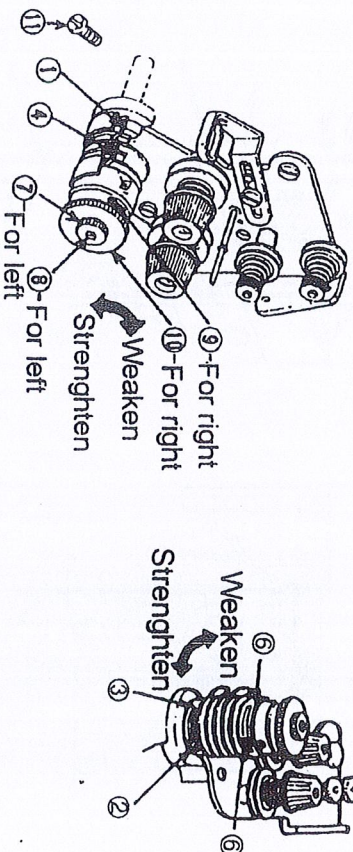

Fig. 12
16. Adjustment of the thread take-up spring (Fig. 12):